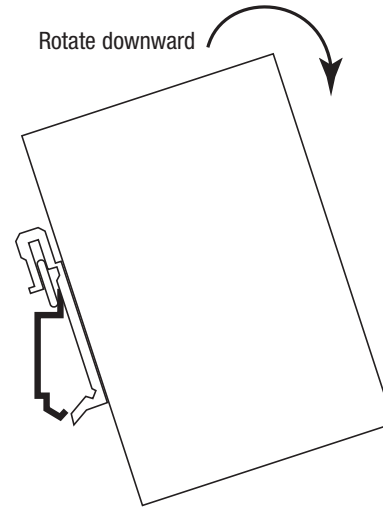

Figure 1
- Insert DIN-Rail into the DIN-Rail slot of Media Converter and rotate downward as shown in Figure 1.